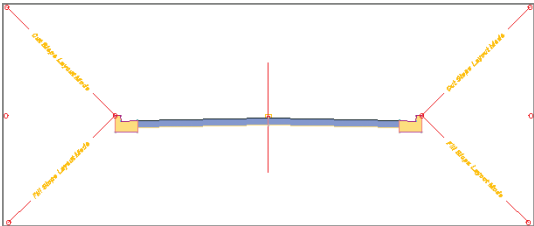

FIGURE 9.13 The assembly with newly added BasicSideSlopeCutDitch subassemblies on either side
- 10. Click the marker in the upper-left corner of the Left Curb subassembly. Click the marker in the upper-right corner of the Right Curb subassembly. The assembly should now look similar to Figure 9.13.